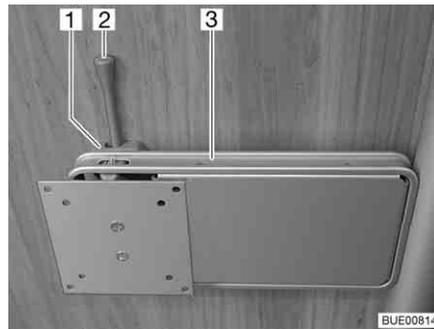

Fig. 103 Holder on the column
- Push the release lever (Fig. 103,2) to the side and turn the holder (Fig. 103,3) with the flat screen to the desired position.
- Turn flat screen back until the holder (Fig. 103,3) engages in the lock (Fig. 103,1).